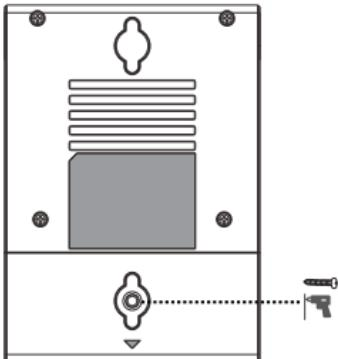

Figure 3
1. Close the back cover of the device after plugging in the cable, and punch the PA3\*8mm Screw into the hole in the back cover (Figure 3)